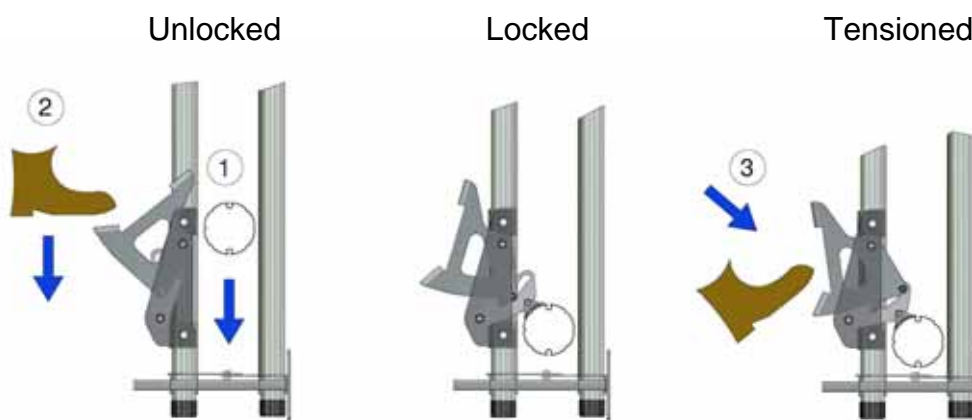

Figure 28, Locking the Curtain
- 8.2 When fully closed the Catches can be manually engaged to the locked position to prevent the Bottom Rolling Tube being lifted. On windy days the bottom tube must be tensioned down by fully depressing the Catch, Figure 28.